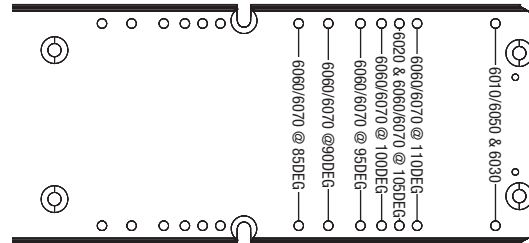
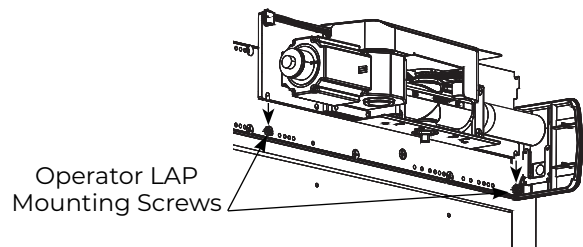

Figure 10
Figure 11 Left Hand LAP shown
1. With backplates mounted to frame, use text to locate holes along bottom of backplates that correspond to your specific closer installation. (Figure 10)
2. Insert two (2) 1/4-20 x 1/2" Phillips pan head screws on each backplate into appropriate engraved locations. Leave a 5/16" minimum gap between backplate and underside of screw head.
3. On each backplate, orient LAP so spring tube of closer is pointed toward closest hinge edge of frame. Slide each LAP over two (2) screws and tighten. (Figure 11)
**NOTE:** When properly oriented, spring tube is at bottom on left hand backplate (Figure 11) and at top on right hand backplate.